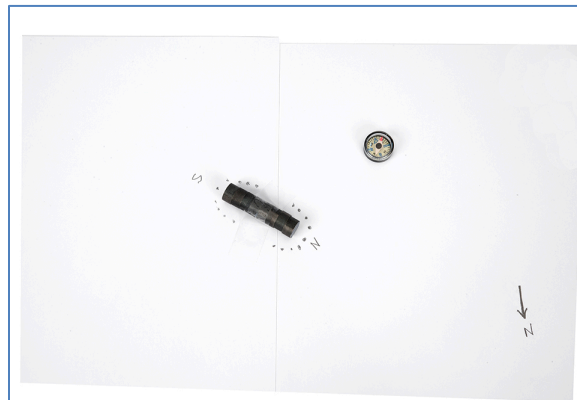

Figure 4: Quadrupole
1. Tape two pieces of paper together. Draw an arrow on the paper with the north direction indicated as shown in Figure 4. With the magnets far away, use your compass to align the paper so the arrow points at magnetic north. Tape the paper down so it can't shift position.
3. Put a semi-circle of nine dots around each pole. In addition, put two dots along the body of the magnet and above the magnet near the north end (see Figure 4) and a matching two dots below it (the compass South pole is pointing to one of them).